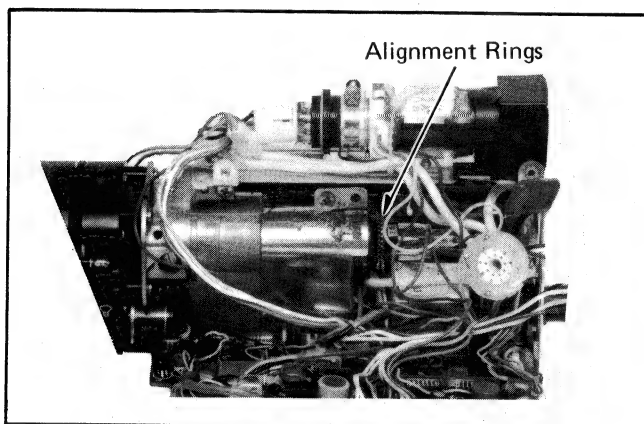
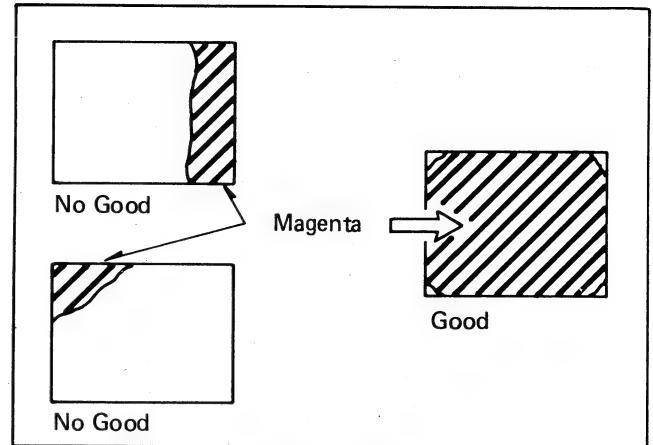

Fig. 27
Fig. 28 TV Screen
7. Observe the raster on the TV monitor, and adjust the two alignment rings (See Fig. 27.) so that the signal level is minimized and the magenta color covers the whole screen as shown in Fig. 28.